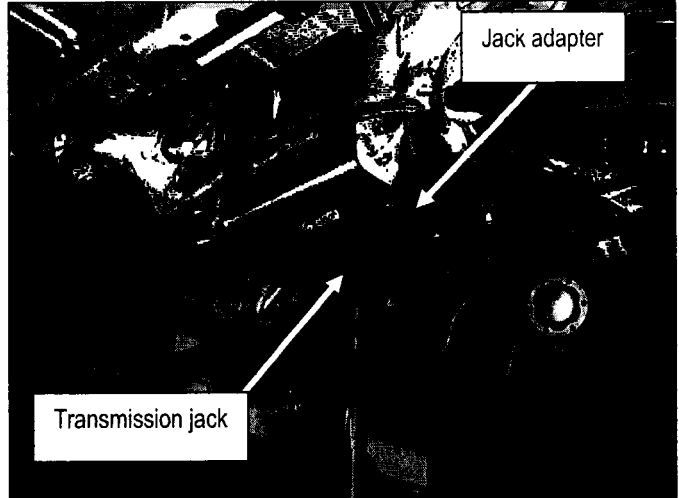

Figure 65
28. Use bolts to install a transmission jack to the jack adapter as shown in Figure 65.